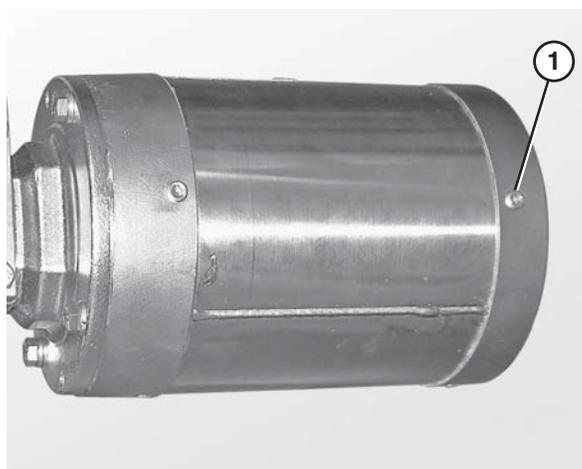

Figure 9
7. Remove the drainage plugs (**Figure 9, item 1**) on the bottom side of the motor.